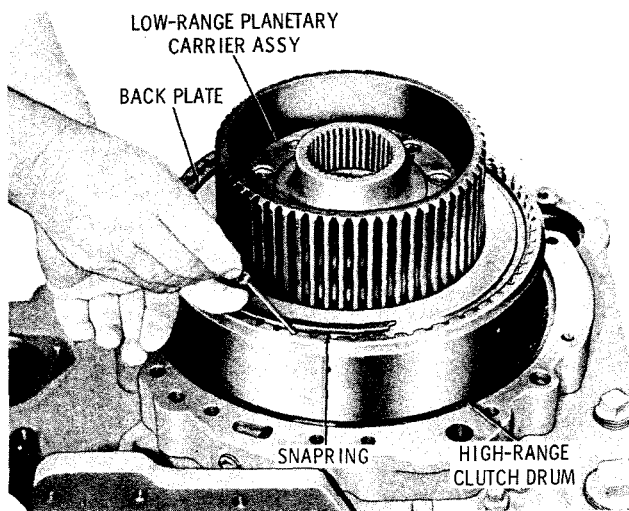

Fig. 5-35. Removing high-range clutch back plate snapping
(1) Remove the internal snapping which retains the high-range clutch back plate (fig. 5-35).